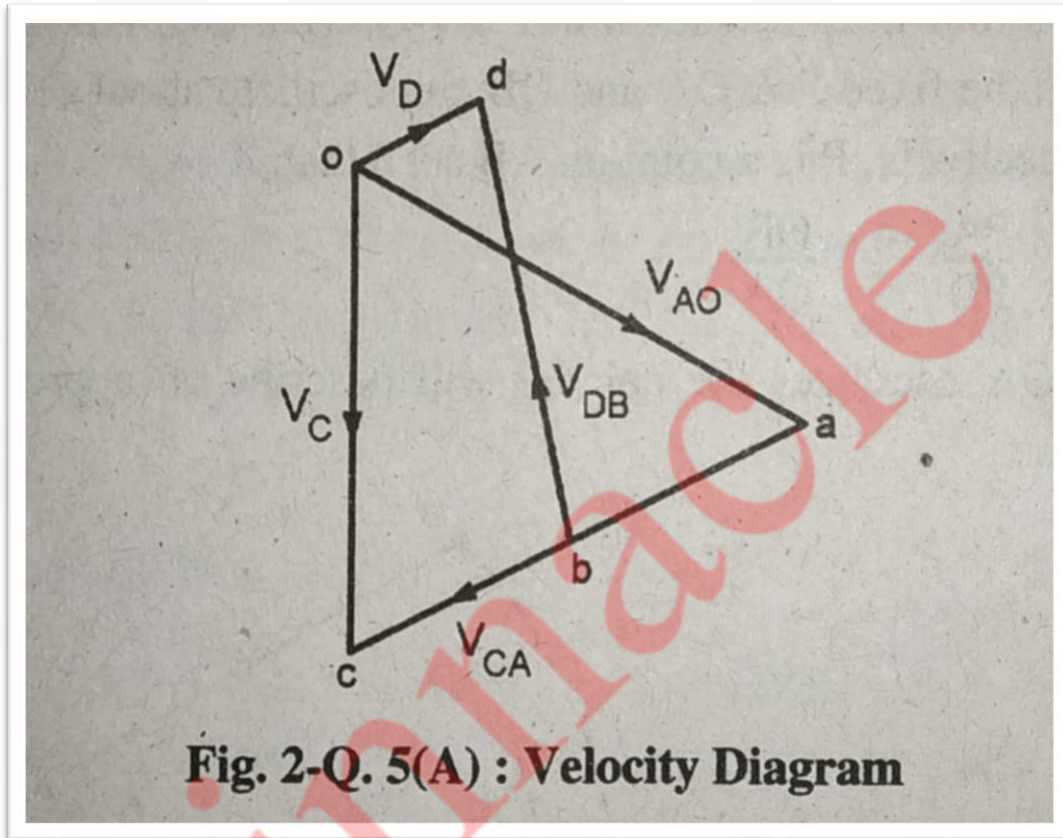

Fig 1
**Q.4)A) The annulus a in gear train shown in figure 1 rotates at 300 RPM about the axis of the fixed wheel S which has 80 teeth the three armed spider is driven at 180 RPM determine the number of teeth required on wheel P. [10]**
**Q.4(B)** wheel of mass 30 kg is horizontally with a force of 100 N applied through a cord wrapped around in a drum of wheel as shown in figure 1 the wheel has a radius of gyration of 75 mm determine linear acceleration of mass center and angular acceleration of wheel. [10]